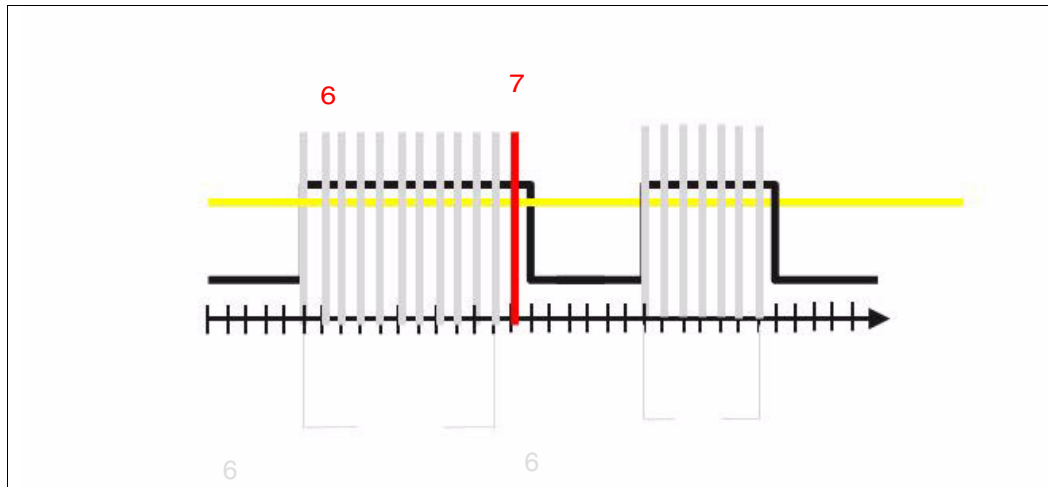

Figure 3-30 Do not alert until condition has been violated for more than x minute(s)/hour(s)/day(s)
Sometimes it is not necessary to be notified if a threshold gets violated just a few times (6). In this case, option 4 might be a good choice. Notifications will only be sent out if the threshold is been violated for more than x minute(s)/hour(s)/day(s) (7), as shown in Figure 3-30.